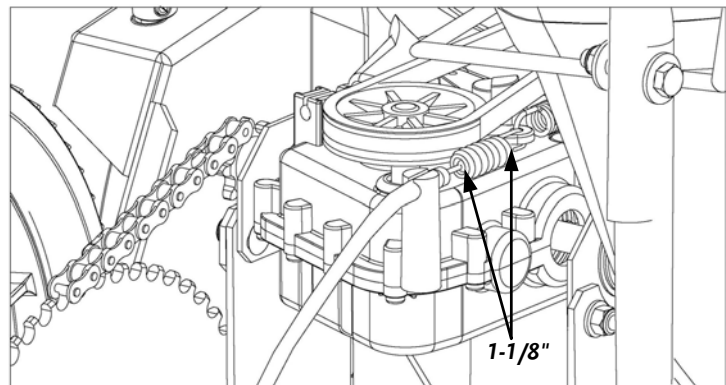

Figure 21b
3. Measure the amount of Clutch Spring stretch (**Figure 21b**). The Clutch Spring should measure 1-1/8" when engaged.